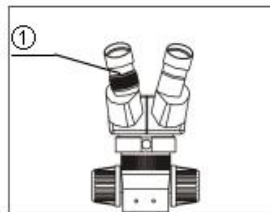

Fig. 3
- 2) Observe the specimen through the left eyepiece and adjust the diopter adjustment ring ① till the image is clear.(Fig. 3)